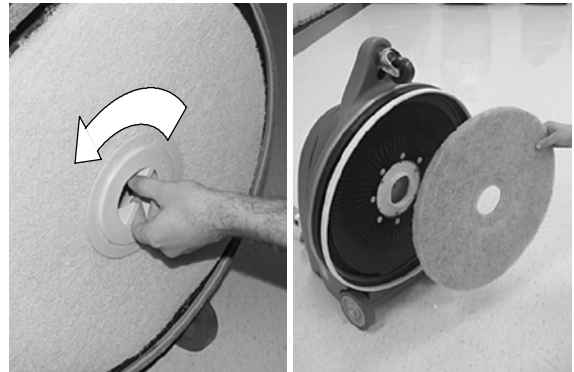

FIG. 9
1. After each use, unplug the power cord and inspect the burnishing pad for wear. If worn, remove the burnishing pad and flip it over or replace the pad (Figure 9).